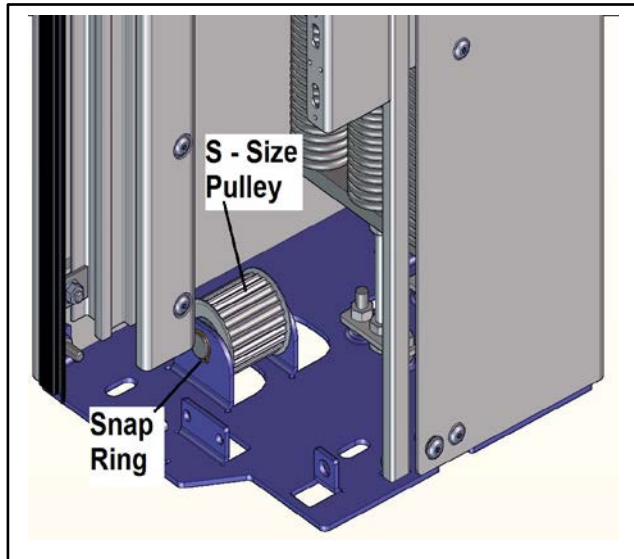

Figure 62
3. At the bottom of the S-size doors the pulley is incorporated into the base plate. (See Figure 62.)